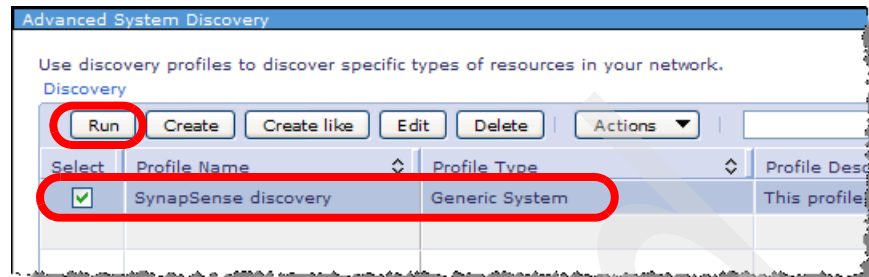

Figure 5-28 IBM Systems Director Advanced System Discovery page
10. Select the new profile created in the Advanced System Discovery page, as shown in Figure 5-28. Click **Run** to start execution of the selected profile.